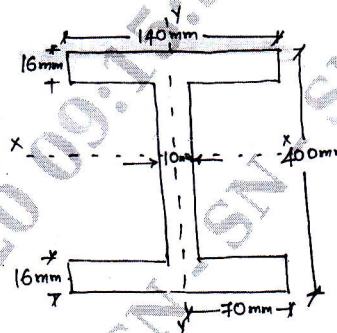

Fig. Q6 (b)
b. A simply supported steel beam shown in Fig. Q6 (b) is used to span 5 m and carries a load of 25 kN/m including its own weight. Calculate the maximum deflection in the beam. If modulus of elasticity is $E = 2.1 \times 10^5$ N/mm² (10 Marks)